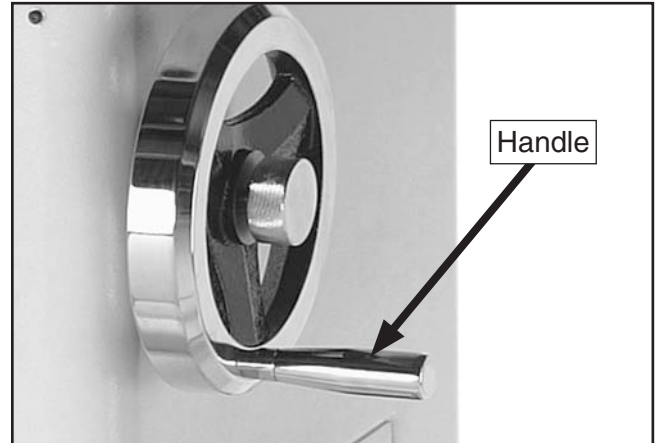

Figure 14. Handwheel installed.
4. Thread each of the handles onto the handwheels, then tighten them with a 14mm wrench (see **Figure 14**).